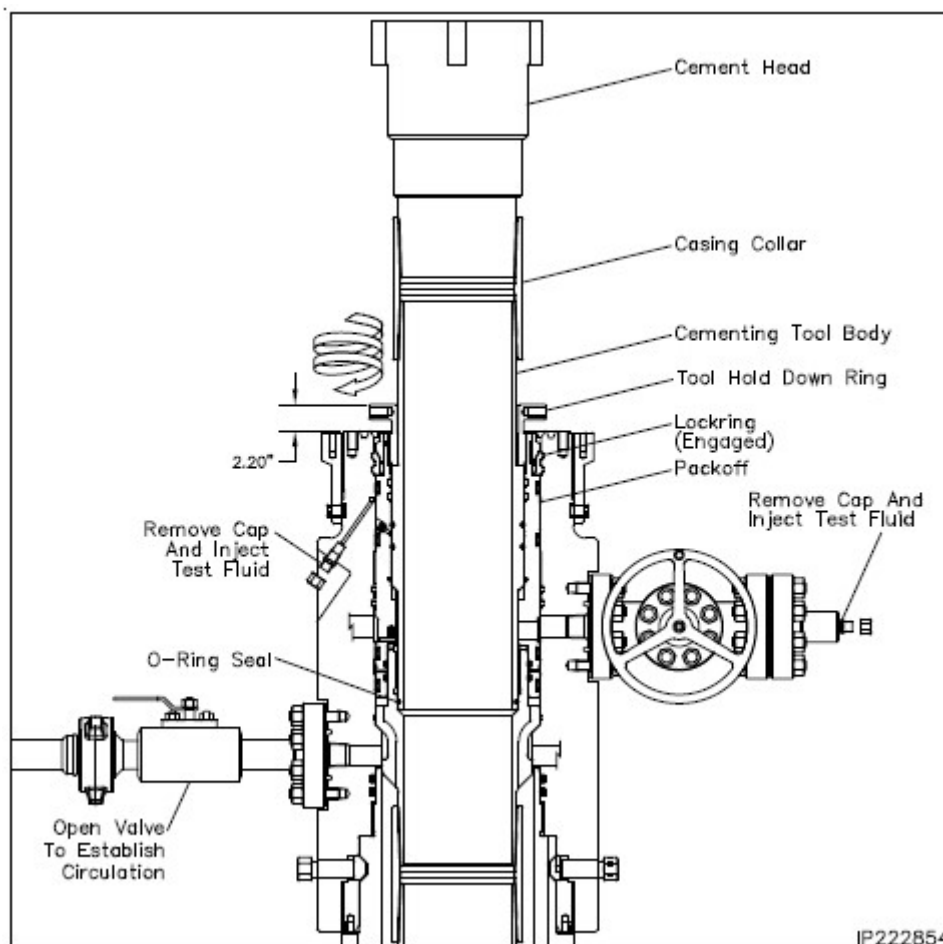

Figure 3. Cactus 9 5/8" 5M offline cementing tool. Pressure rating limited by the lesser of 5M tool rating or the 9 5/8" pup joint and casing.
10. Make up offline cement tool using forklift per wellhead manufacturer (Fig. 3 - 8).